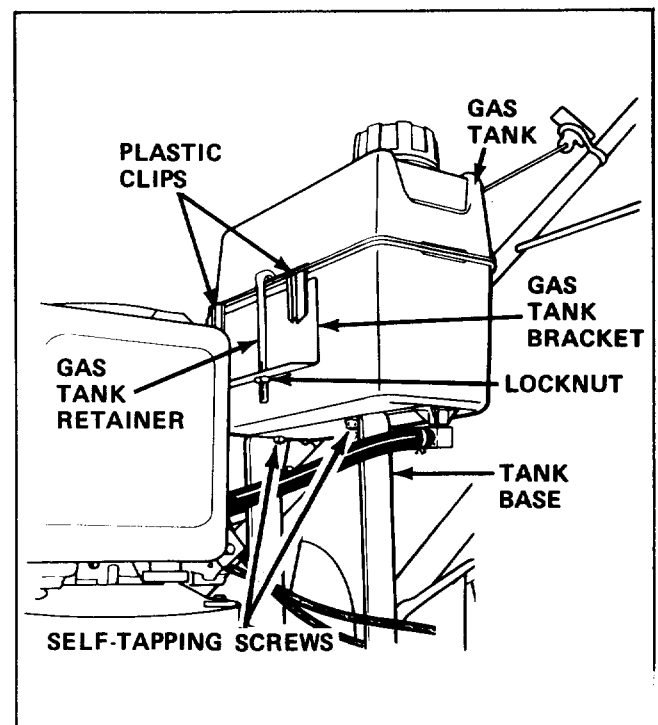

Figure 3
1. Hook the plastic clips on the rear of the gas tank onto the gas tank bracket (Fig. 3).
2. Secure gas tank to tank base with (2) self-tapping screws (Fig. 3). Do not overtighten screws.
3. Hook gas tank retainer onto gas tank and slide end of retainer into hole in tank bracket. Secure retainer to tank bracket with locknut (Fig. 3). Do not overtighten locknut.